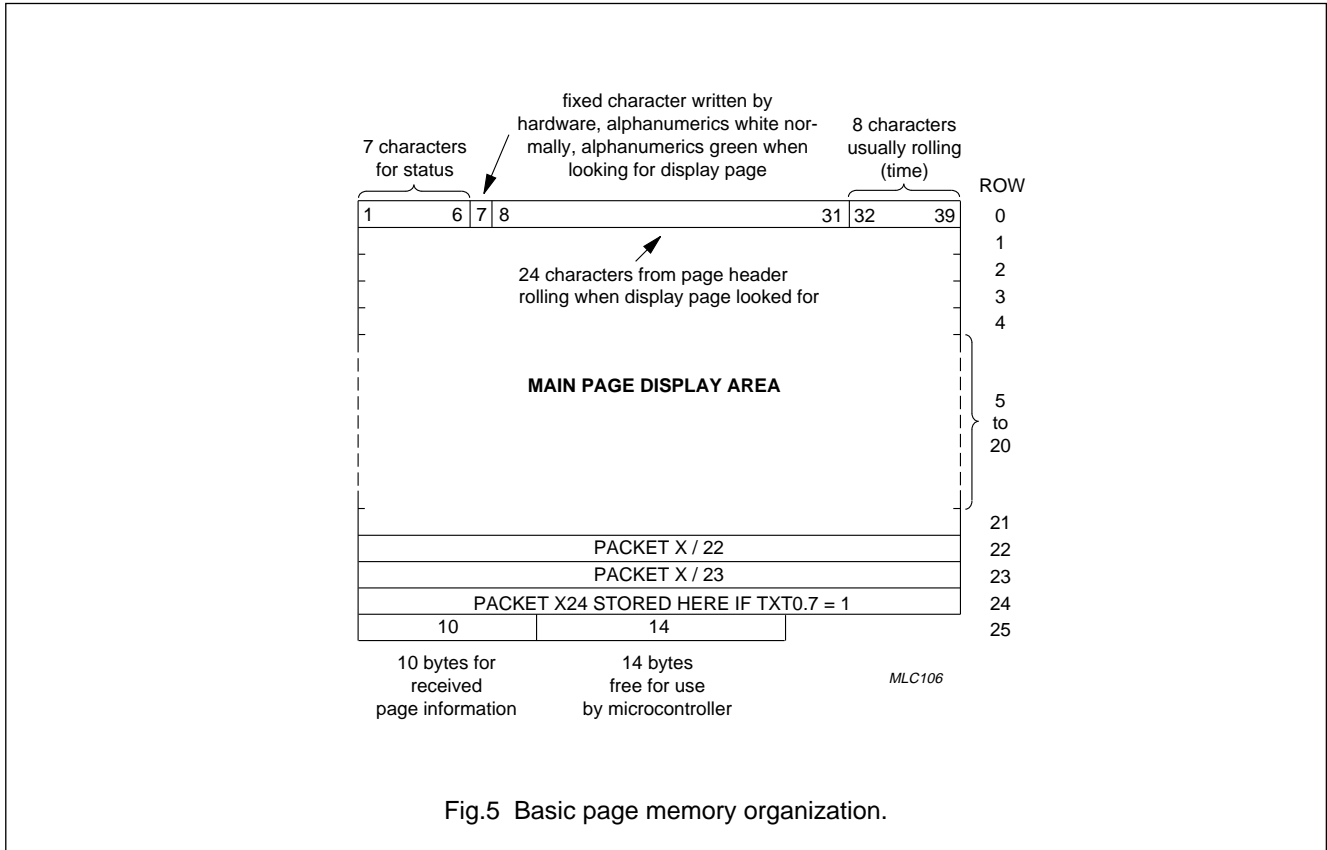

Fig.5 Basic page memory organization.
The acquired teletext packets each contain 40 bytes of data and one packet is stored in each row of the text memory. The page memory organization is given in Fig.5. Rows 0 to 23 form the teletext page; Row 24 is available for status messages and FLOF/FASTEXT prompt information.
**Row 0 (see Fig.5)**
**Row 25 (see Fig.5)**